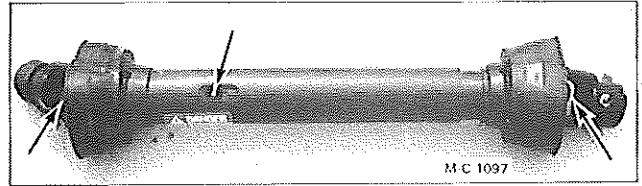

Figure 16
1. Power take-off shaft universal joints (2). One fitting in each yoke and one fitting in the telescoping PTO shaft, see Figure 16.
2. Caster wheel spindles (2). One fitting in each caster wheel bracket.
3. Caster wheel bearings (2). One fitting on each wheel.